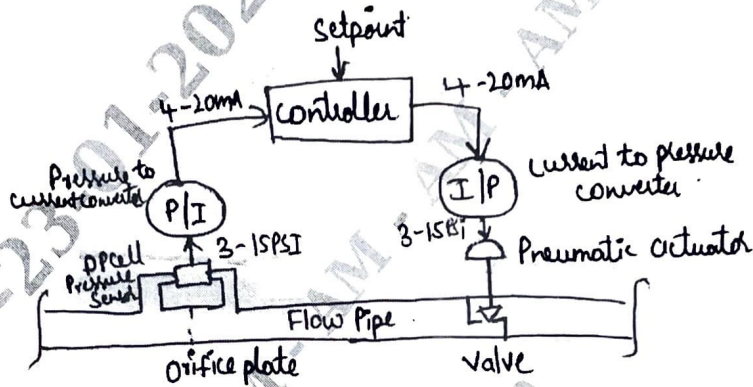

Fig Q1(b)
b. What is control system? Draw the block diagram of a physical control system shown in Fig Q1(b).